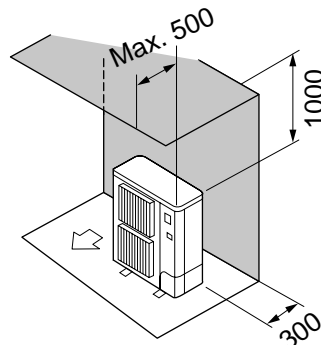

Fig. 2-5
- Obstacles at rear and above only (Fig. 2-5)